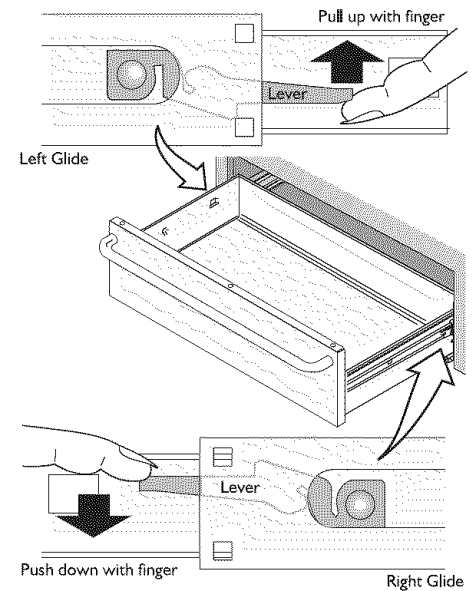

Fig. 1
2. Locate the glide lever on each side of drawer; pull up on the left glide lever and push down on the right glide lever (see figure 1).